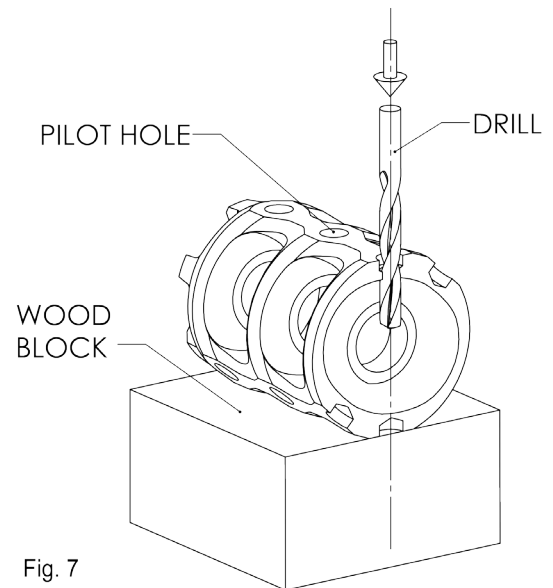

Fig. 7
3. Place opposing flat of brake body against wood block for correct positioning and to prevent rolling (Fig. 7).